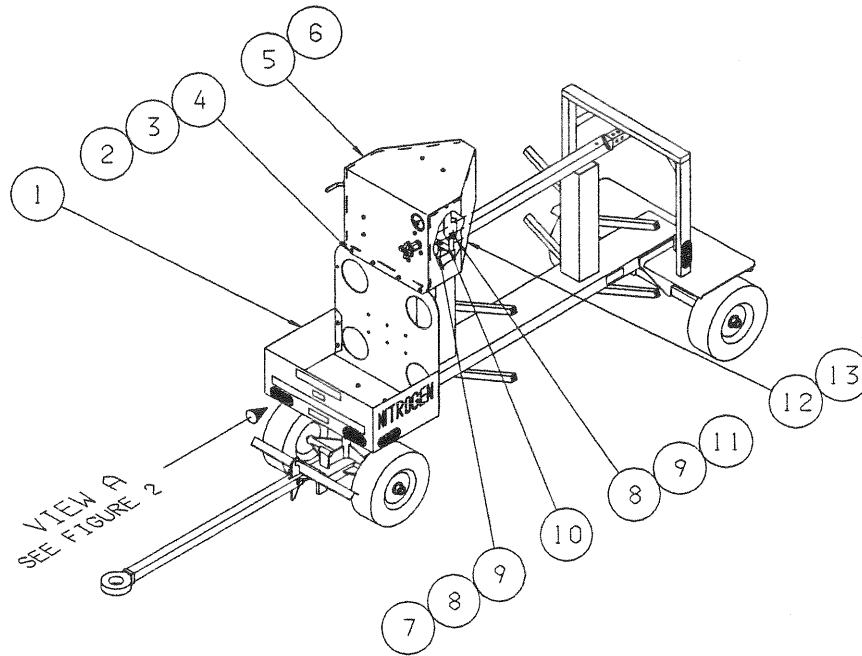

Figure 1
This unit is shipped without the booster mounted. Mount booster onto 4 bottle cart using instructions below. See Figure 1.
1. Install Item 10 (Bracket Weldment) to Item 5 (Piping Assembly) using Items 8, 9, and 11, see Figure 1.